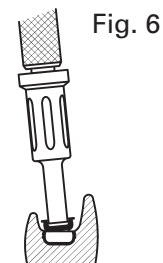

Fig. 6
8. Use the Locator Male Removal Tool (attached to the Locator Core Tool, Zest order 636066) to remove the Black Processing Male from the metal denture cap. The sharp circular edge on the end of the removal tool should be wedged tightly down into the very bottom of the plastic male so that it will catch the inside of the black plastic insert and pull it at an angle out of the metal housing (Fig. 6). To discard the nylon male from the tip on the Core Tool, point the tool down and away from you and tighten the Male Removal Tool clockwise back onto the Core Tool. This will activate the removal pin and dislodge the nylon male from the tip end of the Male Removal Tool.